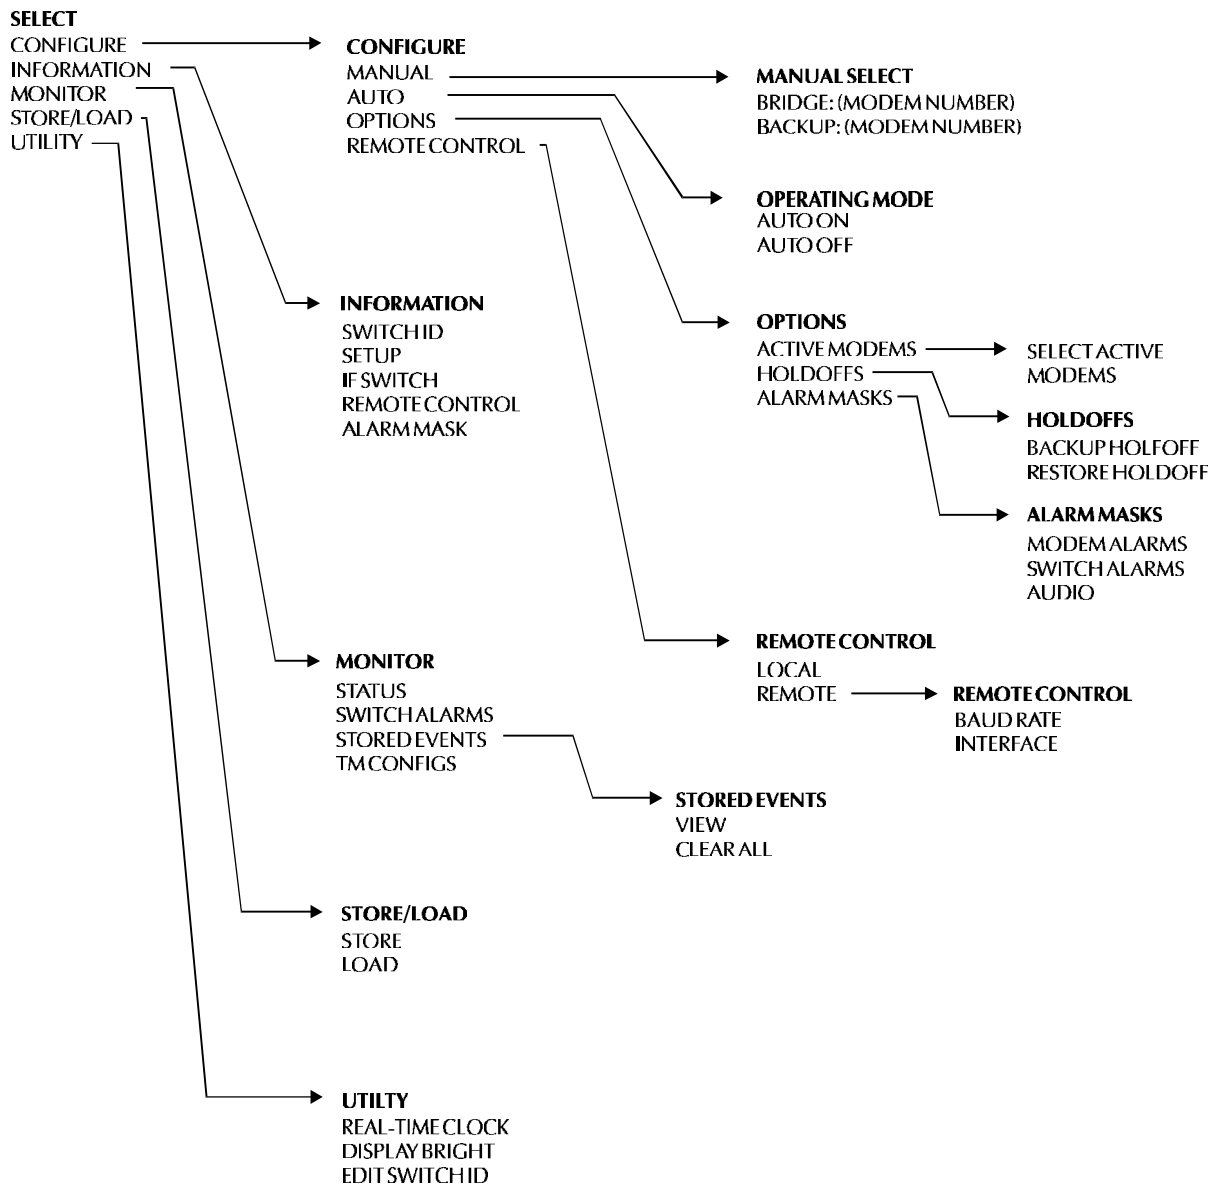

FIGURE 6 CRS-200 PRINCIPLE MENU TREES
**Figure 6** shows the menu structure of the CRS-200. The detailed screens and menus will now be described.